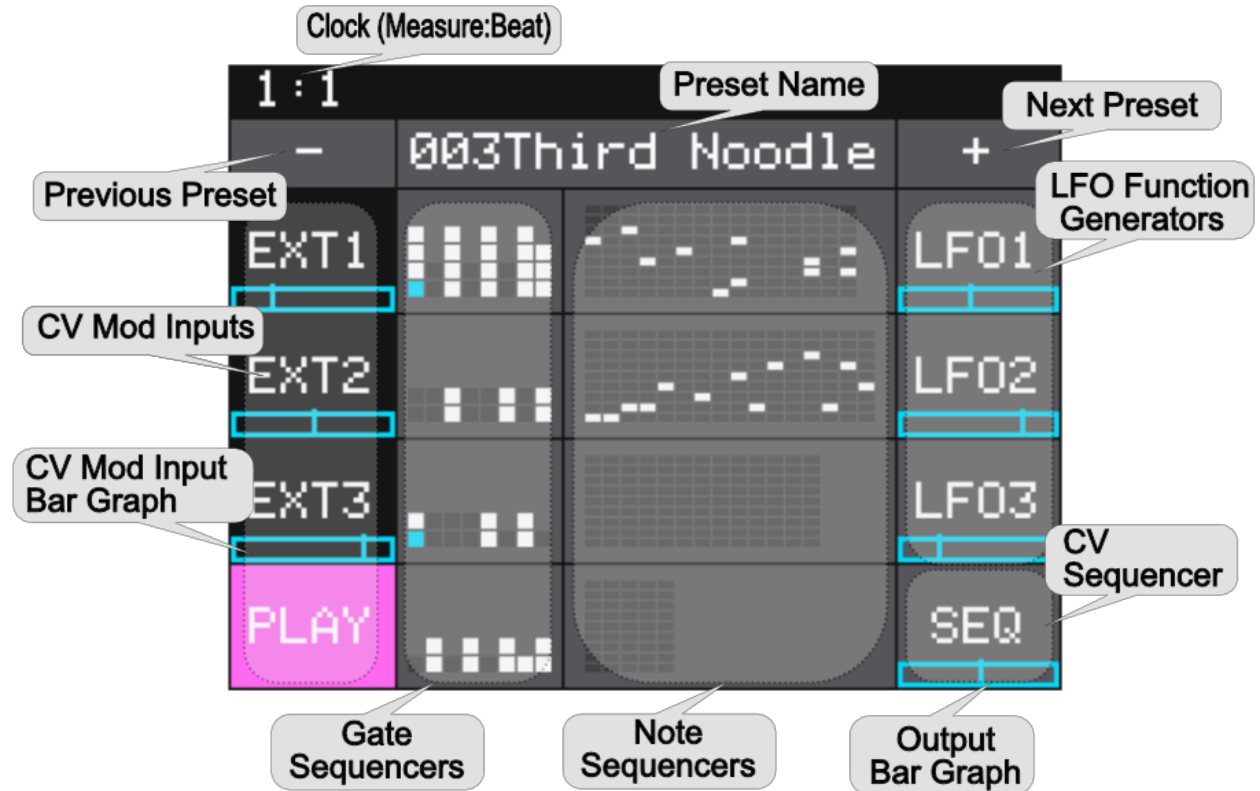

Figure 2: Main Screen Overview
Next make sure the microSD card that came with the module is inserted into the Memory Card Slot. Most modules come with the microSD card already inserted. The card should be inserted with the notched edge down. Now you can power up the rack. The module should start up in less than 10 seconds and you will see the Main screen as shown in Figure 2: Main Screen Overview above.
2. Cycle through the presets by touching the **+** and **-** buttons at the top of the Touch Screen on either side of the name of the preset (e.g. **003THIRD NOODLE** in Figure 2: Main Screen Overview above).